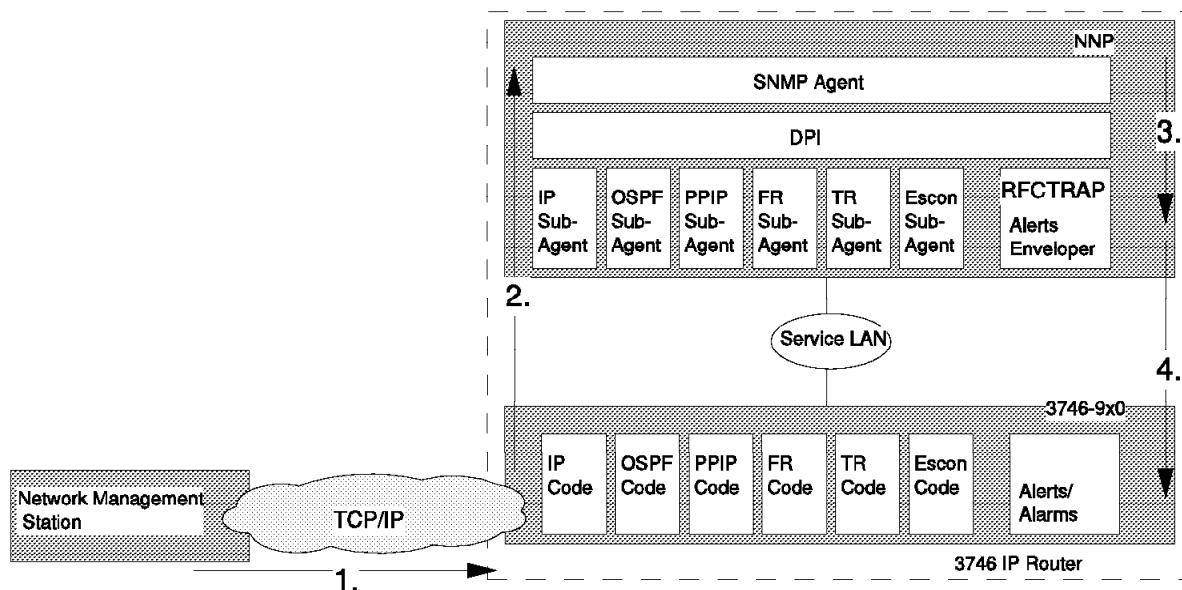

Figure 31-3. Distributed SNMP Agents
Figure 31-3 details the subagents concept. Network management stations soliciting SNMP information access (1) the 3746-9x0 which relays (2) the requests to the NNP. The NNP accepts the SNMP request and forwards it (3) to its appropriate subagent. The subagent decodes the ASN.1 format and interfaces (4) with its counterpart in the 3746-9x0.